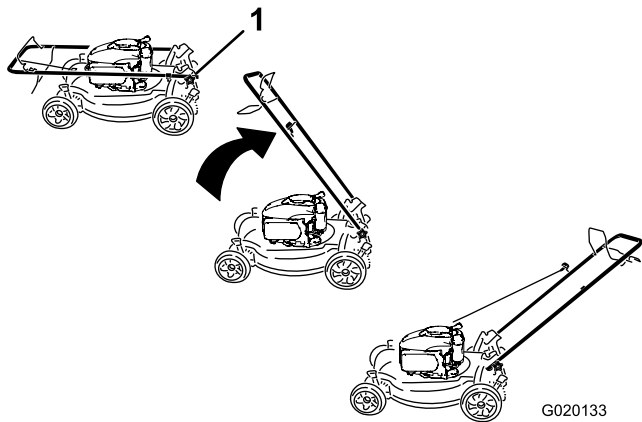

Figure 3
1. Remove the handle knobs from the mower housing (Figure 3).
1. Handle knob (2)
3. Install and tighten the handle knobs that you removed in step 1 (Figure 3).